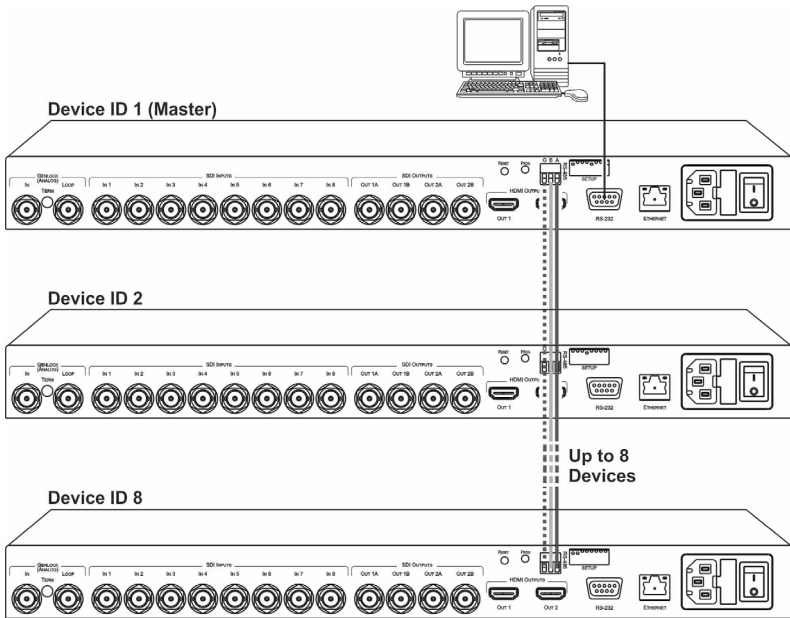

Figure 5: Controlling Multiple VS-82HDxI Devices using RS-485 Serial Communication
When using a standalone **VS-82HDxI** unit, set the device ID to 1. When connecting multiple devices to a PC using an RS-232 connection (as in Figure 5), set the first device that is closest to the PC (the master) to be device ID 1.
**To cascade up to eight individual VS-82HDxI units as shown in the example in Figure 5:**